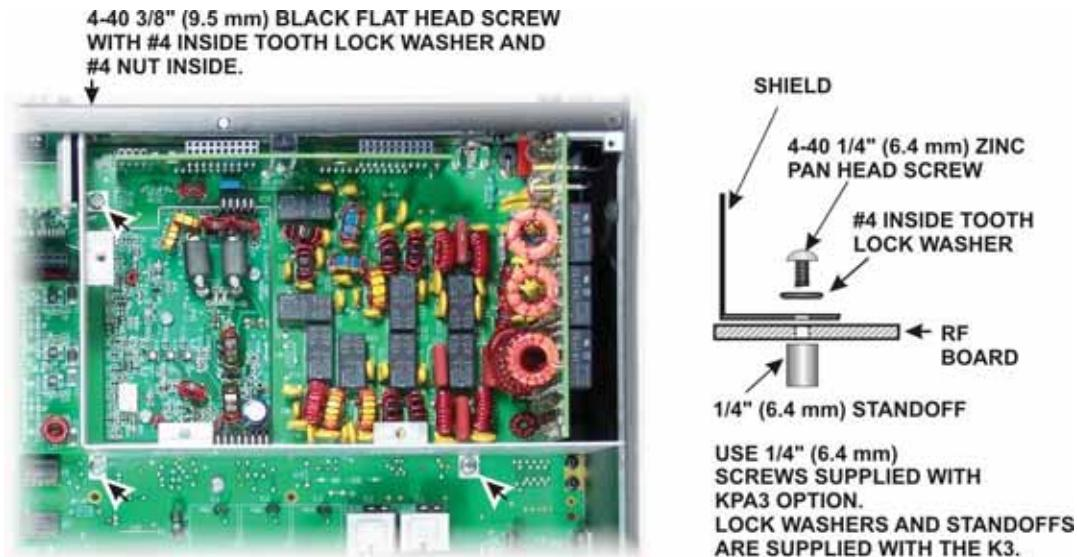

Figure 79. Attaching the KPA3 Shield.
- Attach the shield to the RF board and to the rear panel as shown in Figure 79. The screws, washers and nut are in the KPA3 Option kit. The standoffs are part of the K3 kit hardware.